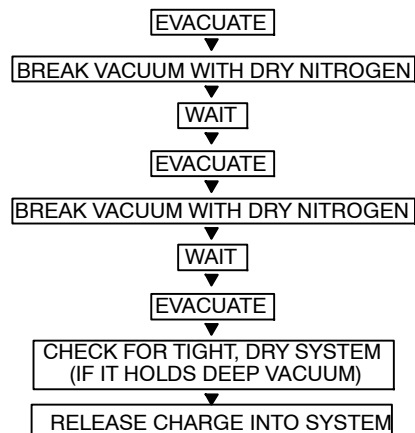

Fig. 82 – Triple Evacuation Method
Refer to Fig. 82 and proceed as follows:
5. Repeat this procedure as indicated in Fig. 82. System will then be free of any contaminants and water vapor.